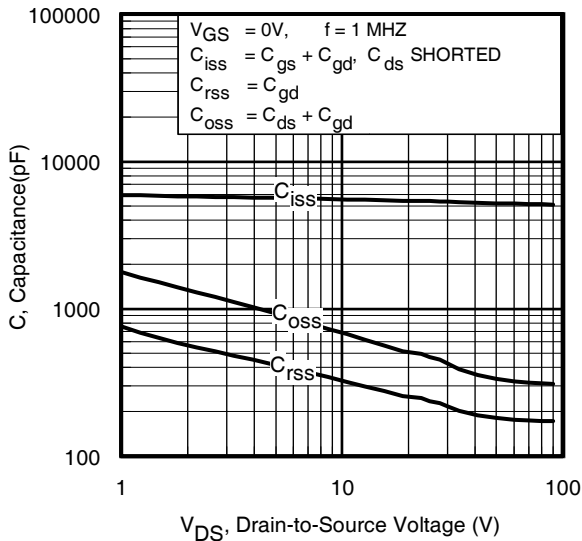

Fig 5. Typical Capacitance vs. Drain-to-Source Voltage
| C oss eff. (TR) | Effective Output Capacitance (Time Related)⑧  | —    | 500  | —    |       | V GS = 0V, V DS = 0V to 80V ⑧, See Fig. 5 |